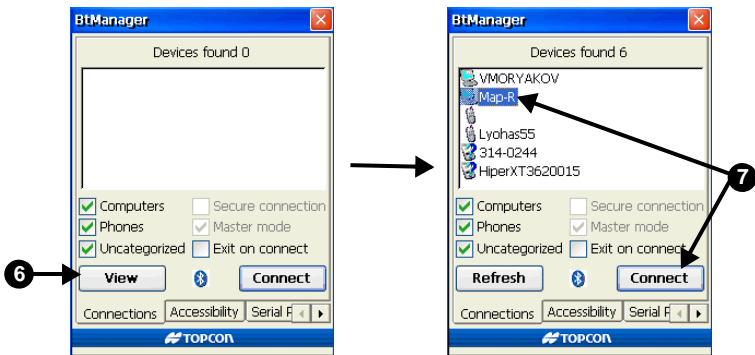

Figure 3-6. View Devices and Connect
- Tap the *Connections* tab and tap **View** to detect Bluetooth devices in range (Figure 3-6 on page 3-5).
- Once the Devices list has been populated, select the device to connect to and tap **Connect** (Figure 3-6).